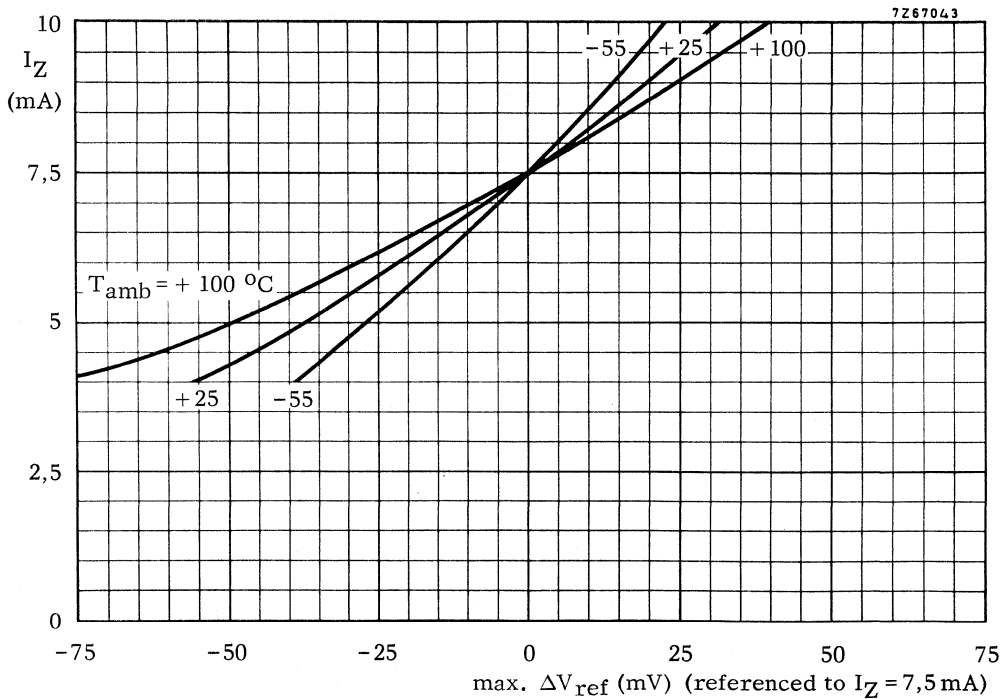

Fig. 3.
* For accuracy of I_Z see Figs 3 to 5.